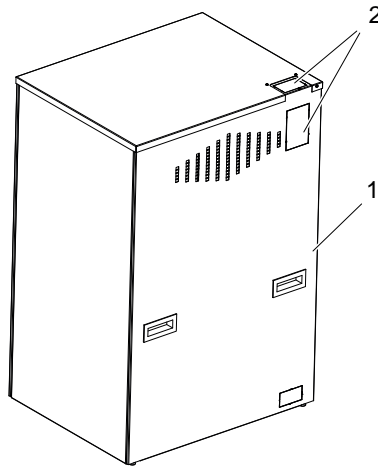

Fig. 5-46
Depending on the installation of the cables from the OTC, Table and Wallstand, one of the cable outlets (2) is used, see Fig. 5-46 .